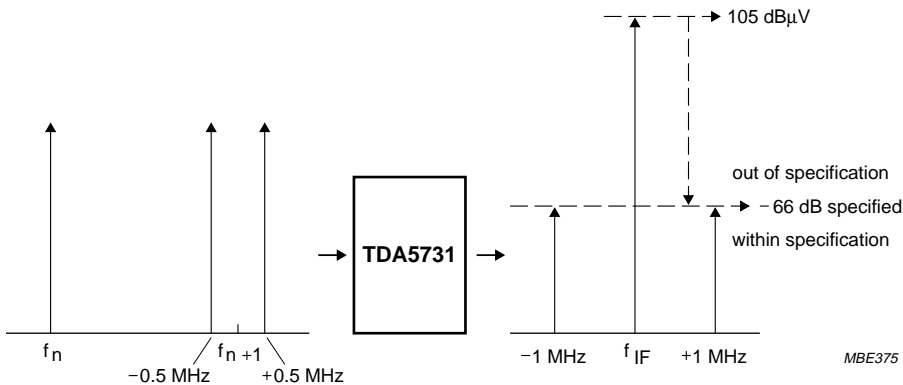

Fig.4 Cross modulation/incidental FM measurement.
- Cross modulation measurement is achieved using the 3 equal signals method (see Fig.4).